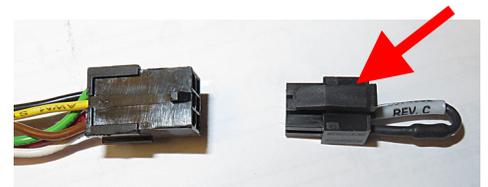

Figure 11
13. Remove and retain the terminator from the cable. Discard the remaining orange cable (see Figure 11).